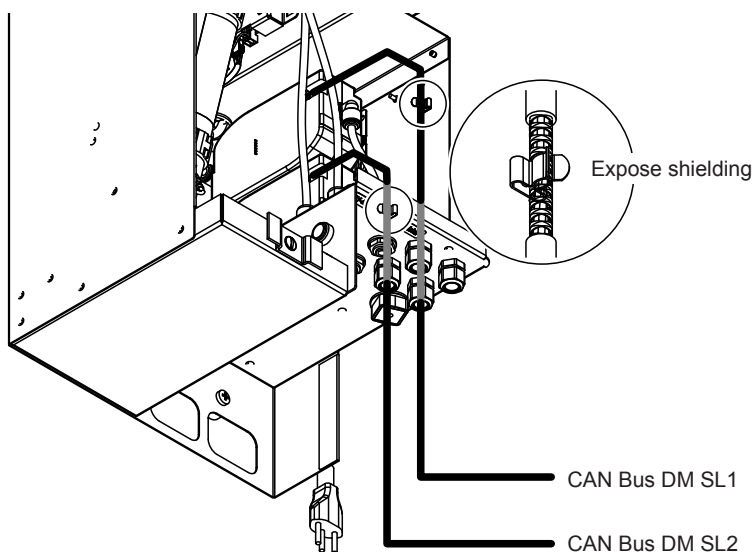

Fig. 24: Connecting CAN bus cables for spray loop 1 and spray loop 2 to the drain modules
5. Connect the CAN bus cables from spray loop 1 and, if present from spray loop 2 to the corresponding drain module (DM) in the central unit according to Fig. 24.